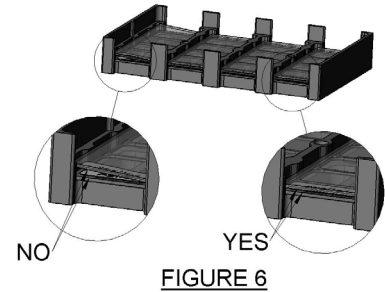

FIGURE 6
- When all arrays have been placed, make sure all assemblies are laid flat against the base plate. See Figure 6 for examples of proper and improper placement.